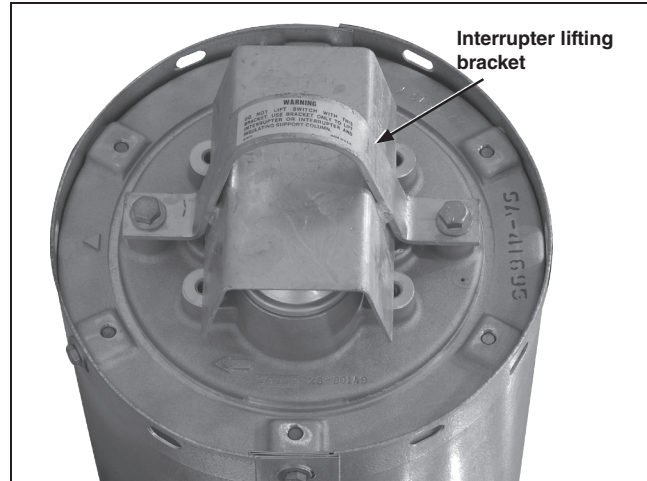

Figure 18. Removing the interrupter lifting bracket.
- (a) Remove the interrupter lifting bracket and associated  $\frac{1}{2}$ -inch stainless steel hardware from on top of the interrupter. See Figure 18. Discard the lifting bracket but retain the hardware.